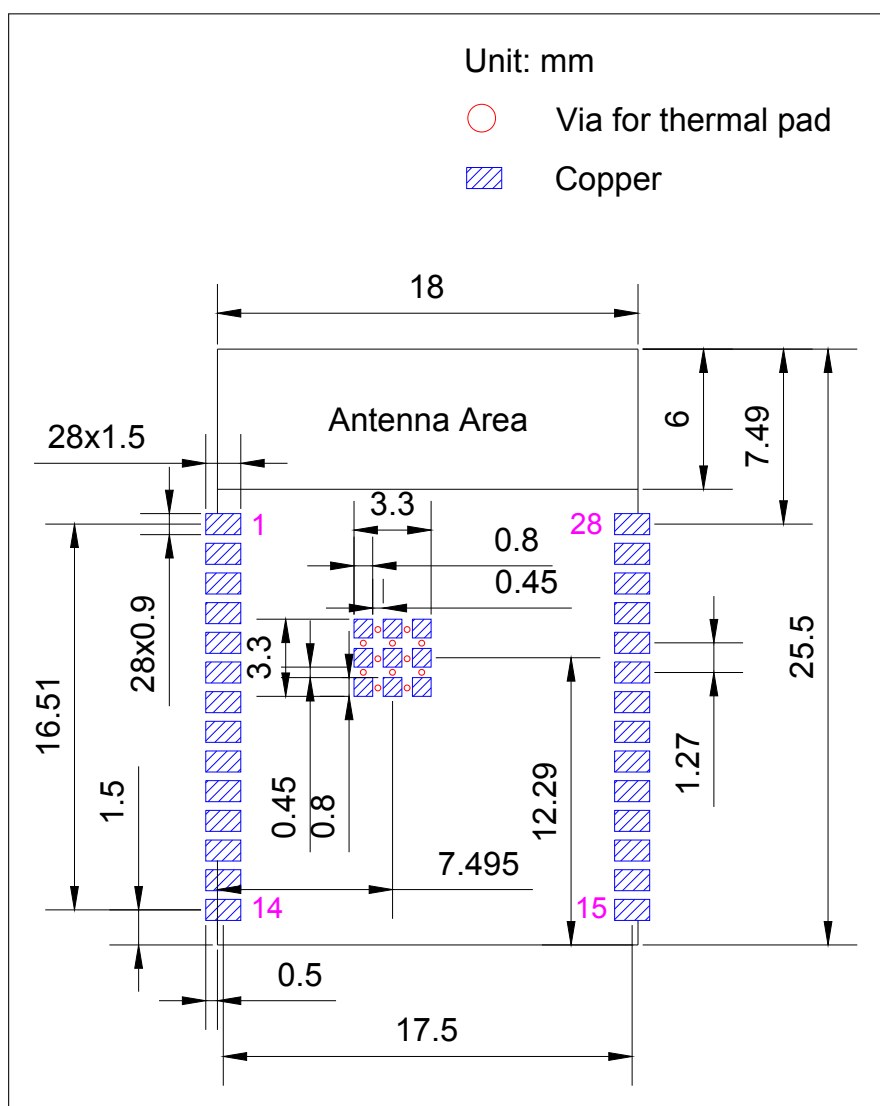

Figure 10: ESP32-C6-WROOM-1 Recommended PCB Land Pattern
- Figures for recommended PCB land patterns with all the dimensions needed for PCB design. See Figure 10 *ESP32-C6-WROOM-1 Recommended PCB Land Pattern* and Figure 11 *ESP32-C6-WROOM-1U Recommended PCB Land Pattern*.
- Source files of recommended PCB land patterns to measure dimensions not covered in Figure 10. You can view the source files for ESP32-C6-WROOM-1 with Autodesk Viewer.